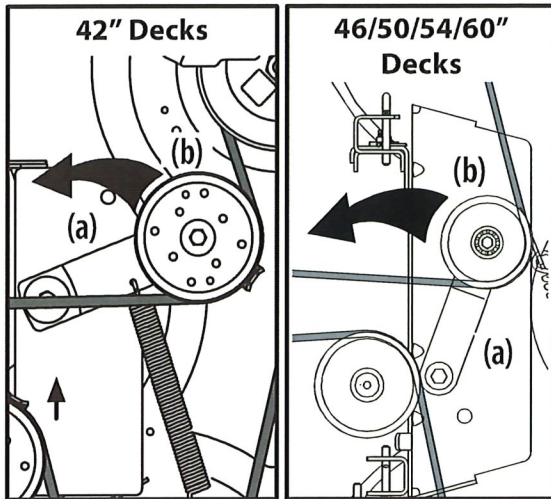

Figure 32
- a. Using the deck lift pedal and knob, raise the deck to the position that provides the most horizontal run of the belt between the deck idler pulleys and the PTO pulley on the bottom of the engine. See Figure 32 on page 27.
- b. Working from the middle of the tractor, pivot the idler bracket (a) and movable idler pulley (b) rearward just far enough to lift the belt up and over the spindle pulley. See Figure 32 on page 27.